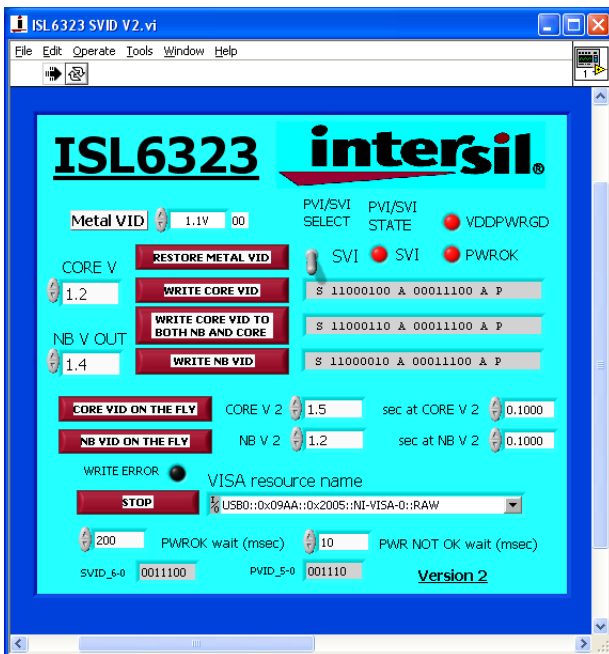

FIGURE 28. ISL6323 DESKTOP WINDOW
1. Connect the ISL6323EVAL1Z evaluation board to the USB port of the PC. The ISL6323 application will be available in START → ALL PROGRAMS. Run the application. Once the software has started, the window on the computer desktop should look like Figure 28.
Figure 28 shows a successful initiation of the communication software. Communication between the PC and the evaluation board is known to be active because there is an address in the “VISA resource name” box and the “WRITE ERROR” LED is dark. If the software was unsuccessful in establishing communications with the evaluation board, the “WRITE ERROR” LED would be lit red and the “VISA resource name” box may or may not be blank.